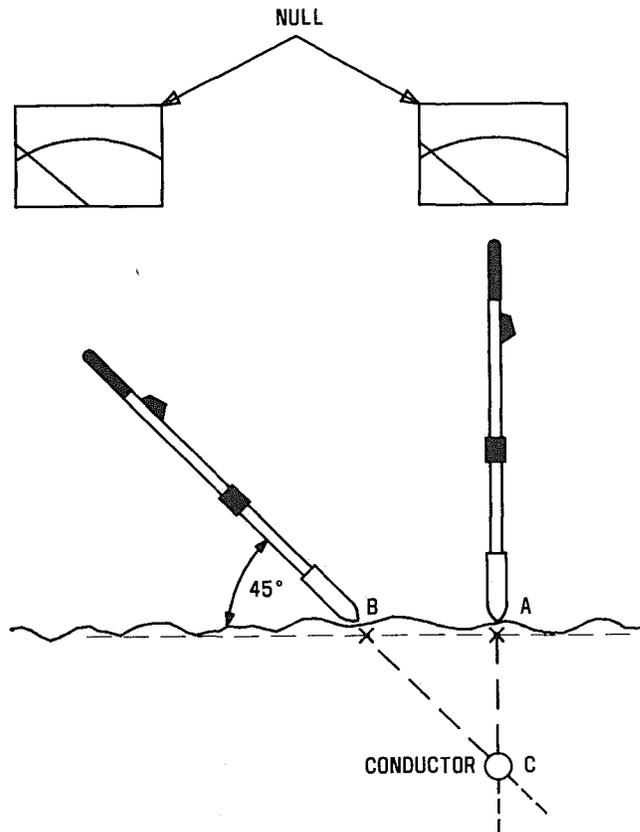

Fig. 8—Locating Cable With Probe
- Locate cable by achieving a null reading on the receiver meter. Mark the ground surface at location of conductor (Fig. 8).
The distance between the letter A and B in Fig. 8 is the depth of the conductor C.